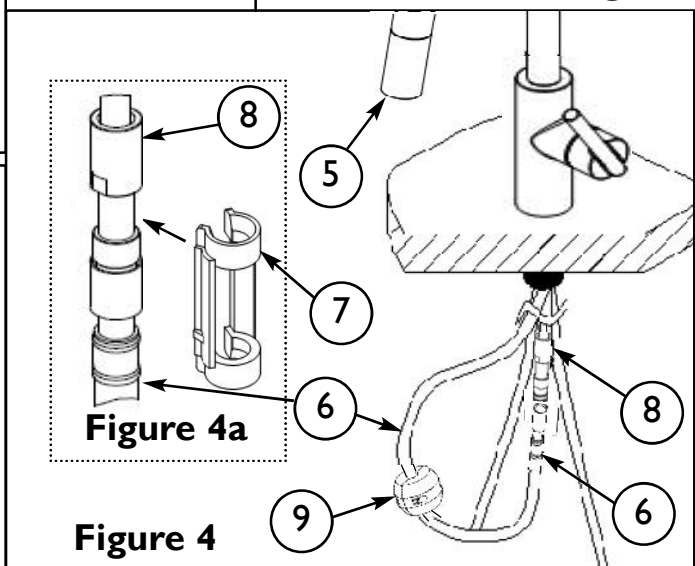

Figure 4
5. Attach WEIGHT (9) to HOSE (6) in the appropriate area shown, on the upward swing toward the SPRAYHEAD (5), in order to provide proper pull to hose. **See Figure 4.**
6. Connect HOSE (6) to valve OUTLET(8). **See Figure 4.** Attach CLIP (7) to the connection between HOSE (6) and OUTLET(8). **See Figure 4a.**